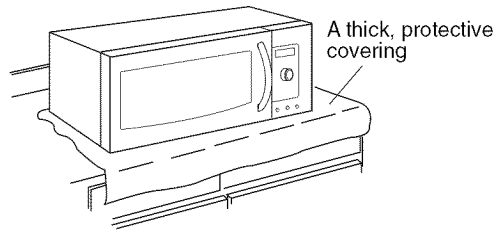

Figure 10
2. Cover the counter top or cooktop with a thick, protective covering to protect it from damage and dirt. See **Figure 10**.